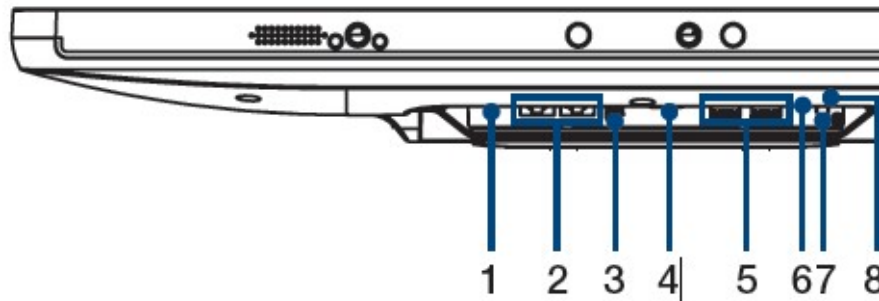

Figure 2.8 POC-421-14 Standard Model Equipotential Terminal Pin
3. Grounding cable plug with POC-421-14 SERIES Equipotential Terminal. (See Figure 2-8, 2-9)